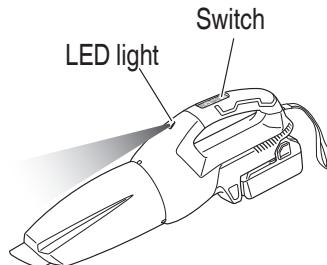

Fig. 17
4. Switch on the appliance (Fig. 17)